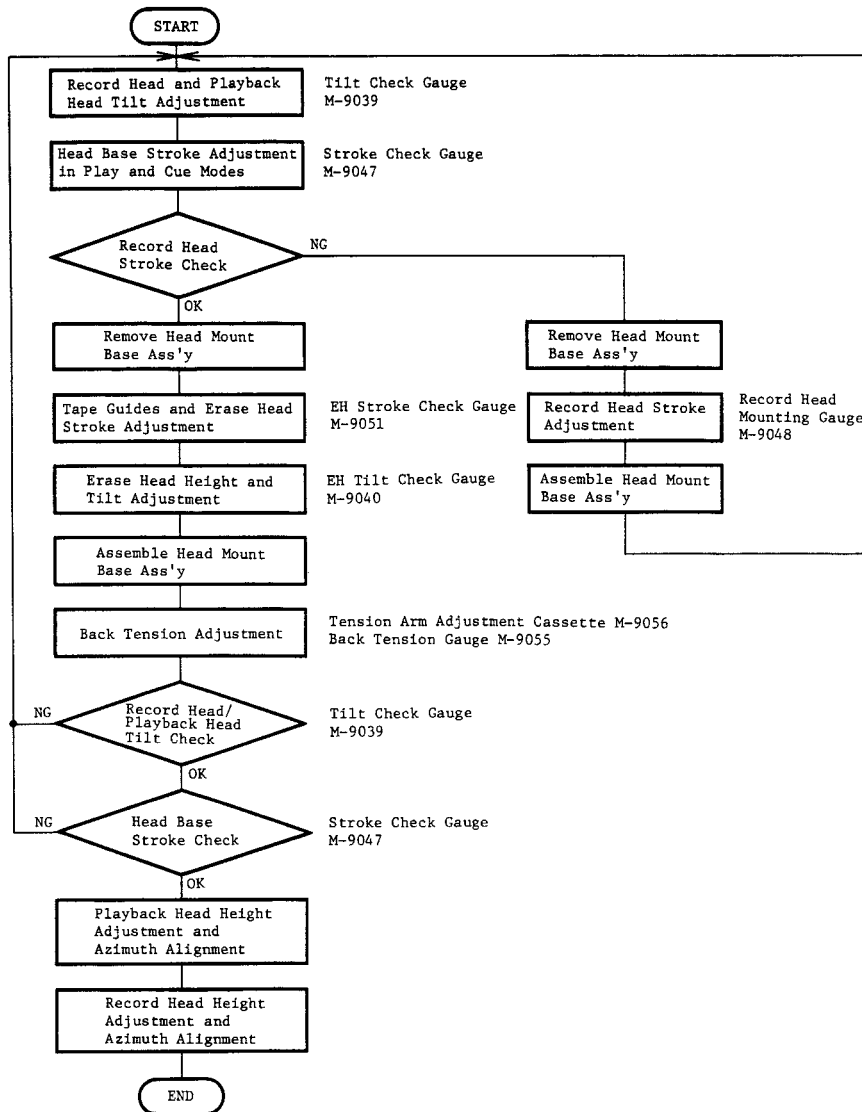
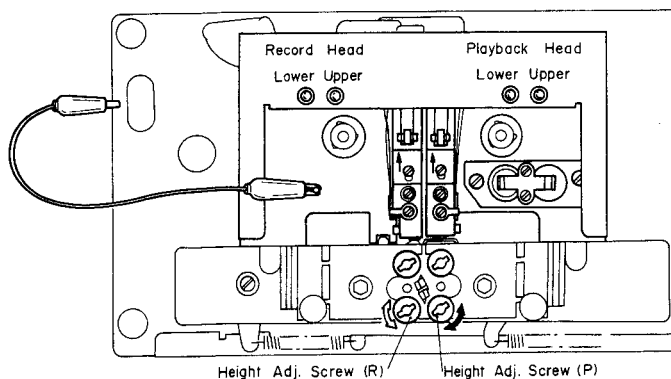

Fig. 4.4
Fig. 4.5
Note: On items 4.3 – 4.9, refer to Fig. 4.4 flow chart. Refer to Figs. 4.5 and 4.6.
- (1) Load a Tilt Check Gauge M-9039 (DA09039A) in the N-482Z.
- (2) Clip the grounding terminal of the Tilt Check Gauge with one end of the cord with clip, and the chassis of the N-482Z with the other end.
- (3) Remove both of the Height Gears.
- (4) Set the N-482Z in Play mode. Check to insure whether the Beacons Playback Head "Upper" or "Lower" and Record Head "Upper" or "Lower" are illuminating. In order not to give damages onto the head surfaces, push both of slide knobs of the Gauge to the direction of arrow marks, then return them to the original place to be in contact with record head and playback head surfaces after Play mode is securely locked.
- (5) Check to insure freedom from contact between the Gauge and pad lifter.
- (6) Beacon Playback Head "Lower" will light on when height adjustment screw (P) turned clockwise but Playback Head "Upper" when counterclockwise. Adjust so that both "Upper" and "Lower" will light on even when you move the slide knob to the direction of an arrow mark and then return them to the original place.
- (7) Same procedures will apply to the Beacons Record Head "Upper" and "Lower", except for the height adjustment screw (R).
- (8) Set the N-482Z in Stop mode and fit both of the serrated Height Gears. Then set the N-482Z again in Play mode and insure all of the 4 Beacons are illuminating. If not, (3) through (7) will have to be repeated till satisfactory results are obtained.